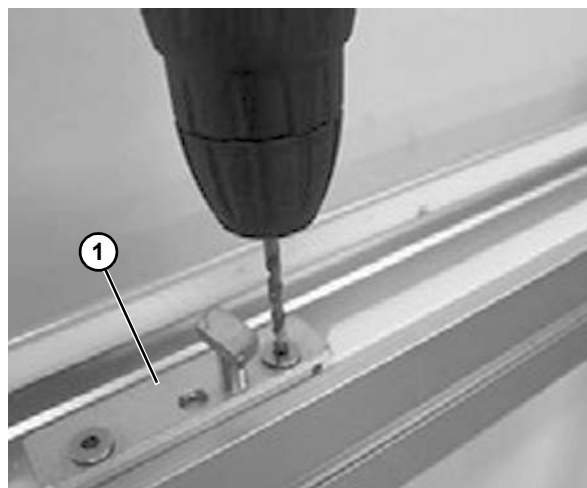

Figure 39
1. Drill two holes near the beginning of each slide rail section. Use the drill fixture (**Figure 39, item 1**) to ensure clean-cut holes and the correct location of the holes. The holes must be at the leading edge of the joint piece, in the direction of travel, to hold the slide rail in place when the conveyor is in use. Use a well sharpened 4.3mm, #18, or 11/64" drill bit.